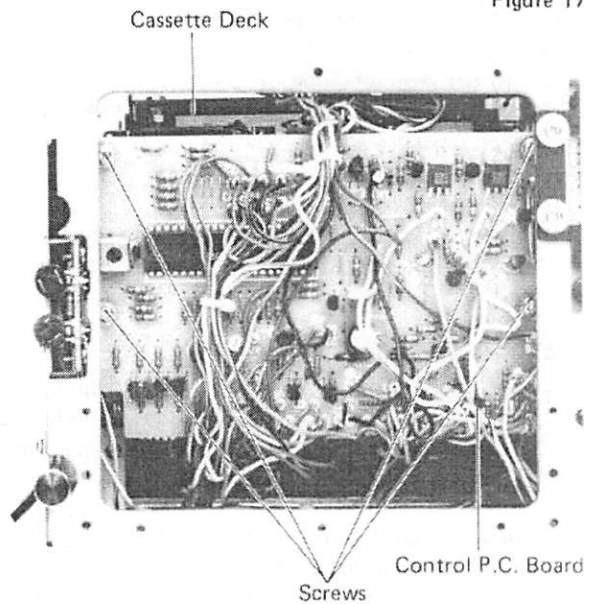

Figure 18
- (1) Turn the cassette deck upside down and remove four screws as shown in Figure 18.